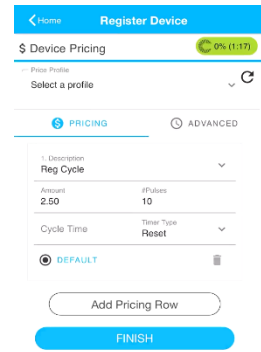

Figure 33
- In the example in **Figure 33**, the total cycle cost is \$2.50, therefore the machine will expect 10 pulses (or 10 quarters).